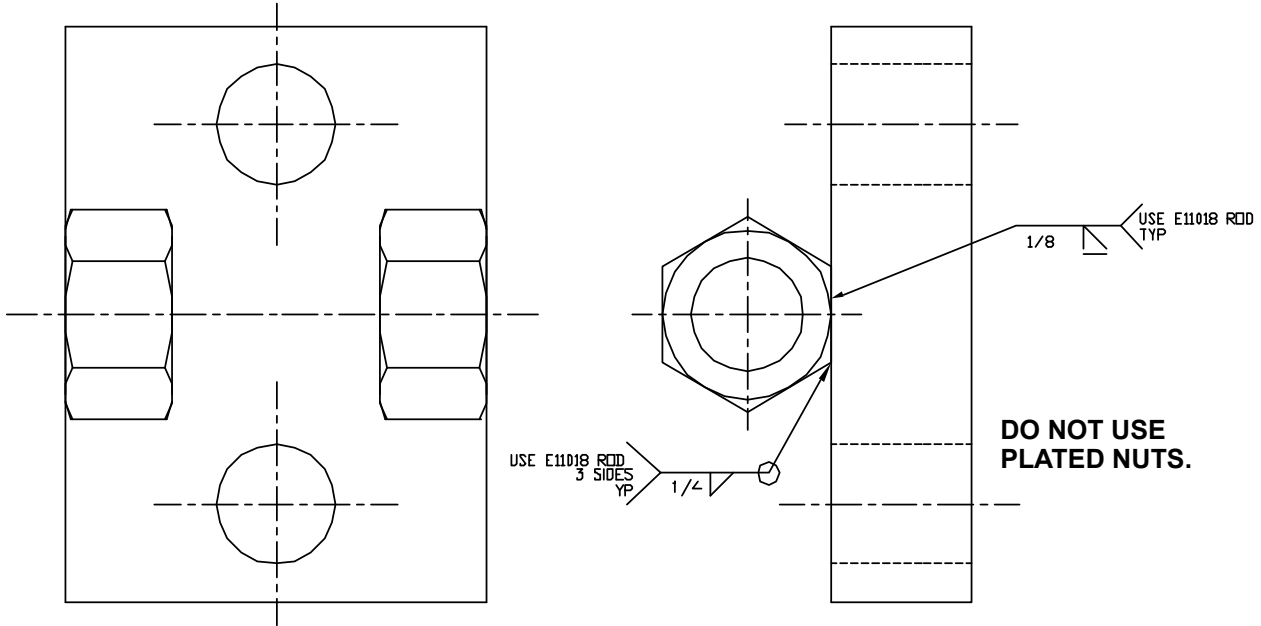

Figure 1: Adjusting Clamp Weld Detail
1. Inspect each adjuster nut and ensure there are penetration welds on all four sides of the nut. If any of the nuts are not welded on all four sides, either upgrade the welding as shown in Figure 1 or order new adjuster plates as required (see Table 1 and Table 2).